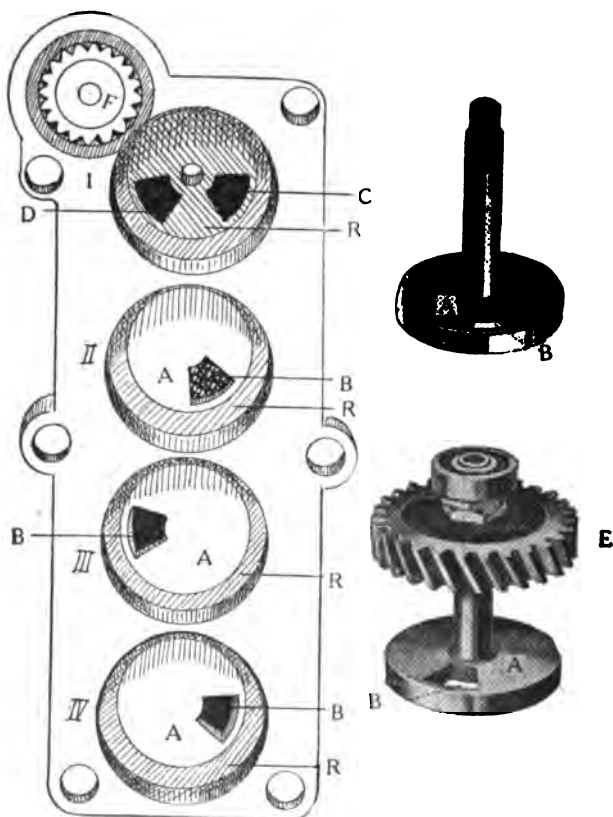

Fig. 11
Quite a number of motors are also made with rotating-valves which are very different from any of those described. There are two principal forms of rotary valves, one type having small, disk-like valves turning in seats in the cylinder-heads and the other type employing cylindrical tube-like valves revolving in hollow casings alongside of the cylinders. A motor using the former type is shown in Fig. 11, which represents the upper portion of the cylinders, with the valves (A, A, A) in position in cylinders Nos. II, III, and IV, and removed from the first cylinder. The valves (one of which is shown in the separate figure) are circular metal disks with openings (B), which correspond in size and shape with openings in the cylinder-heads (C, D). The valves revolve in recesses or seats machined in the cylinder-heads and are connected together above the cylinders by spiral or helical gears (E), which are operated by a vertical shaft and gear (F), which are in turn operated by a gear on the main shaft. On the intake-stroke of the piston the valves are turned until the opening (B) comes into line with the inlet opening (C) on the cylinder in which the piston is commencing the suction-stroke (position IV) and the charge of gas is drawn in through the opening thus formed. On the next or compression stroke the valve rotates until the inlet is covered (position II) and the charge is fired. At the termination of the firing-stroke the valve rotates